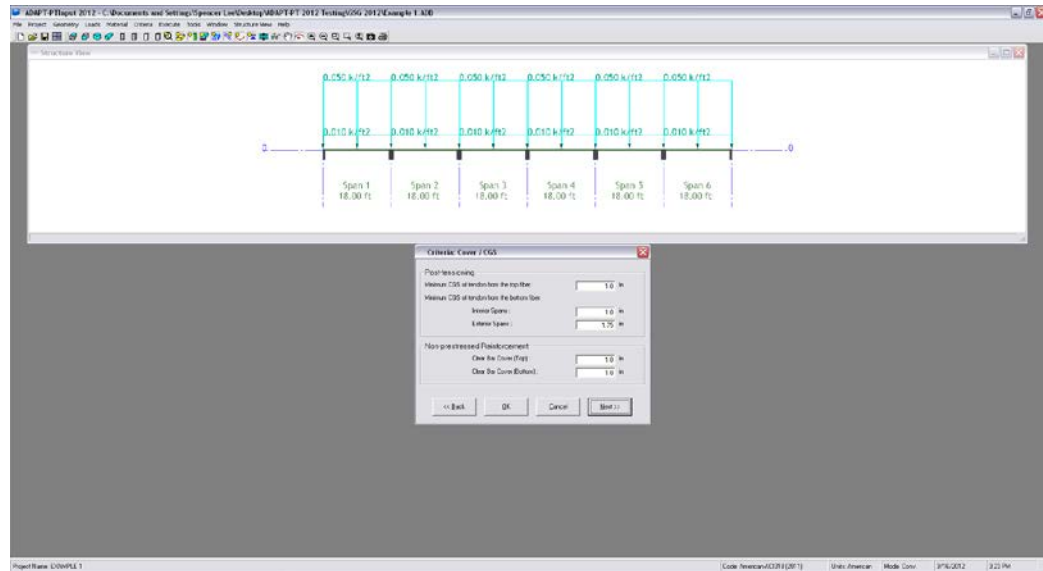

FIGURE 2.1-19
2.1.5.5 Specify Minimum Covers For Post-Tensioning Tendons And Mild Steel Reinforcement (Fig. 2.1-19)